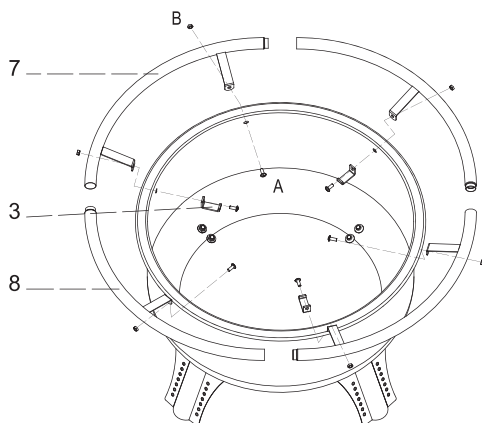

Fig.2
Assemble the 2-bracket Outer Rim(2pcs) , 1-bracket Outer Rim(2pcs) and Cook Grate Holder(3pcs) with 6pcs M6 screws(A) and 6pcs M6 Nuts(B).DO NOT cross threaded. See Fig.2